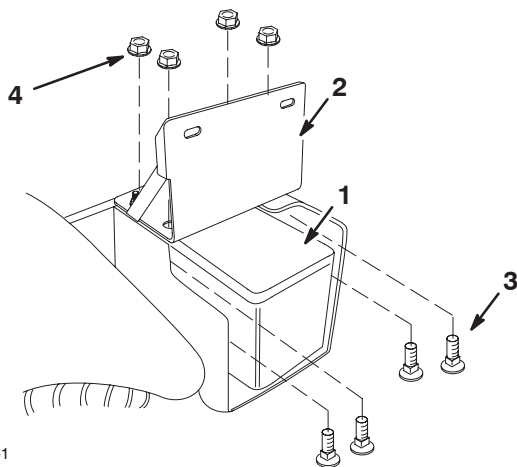

Figure 13
1. Mount the Multi-Pro 1200 series adapter bracket to the right side of the vehicle above the battery (Fig. 13) using 4 bolts (3/4 x 1-1/4 inch) and 4 flange locknuts (3/4 inch).